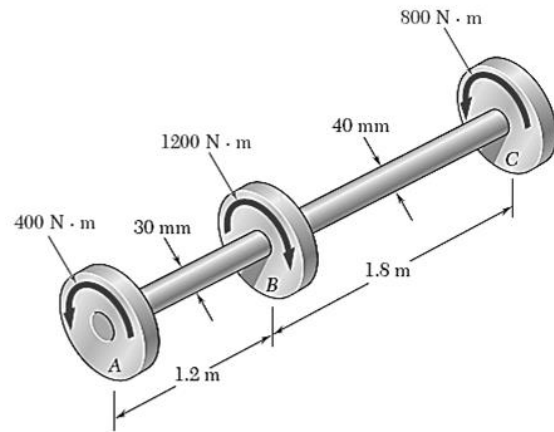

Fig. 6
6. The torques shown are exerted on pulleys A, B and C. Knowing the both shafts are solid and made of brass ( $G = 39 \text{ GPa}$ ), determine the angle of twist between (a) A and B, (b) A and C. (Fig. 6)